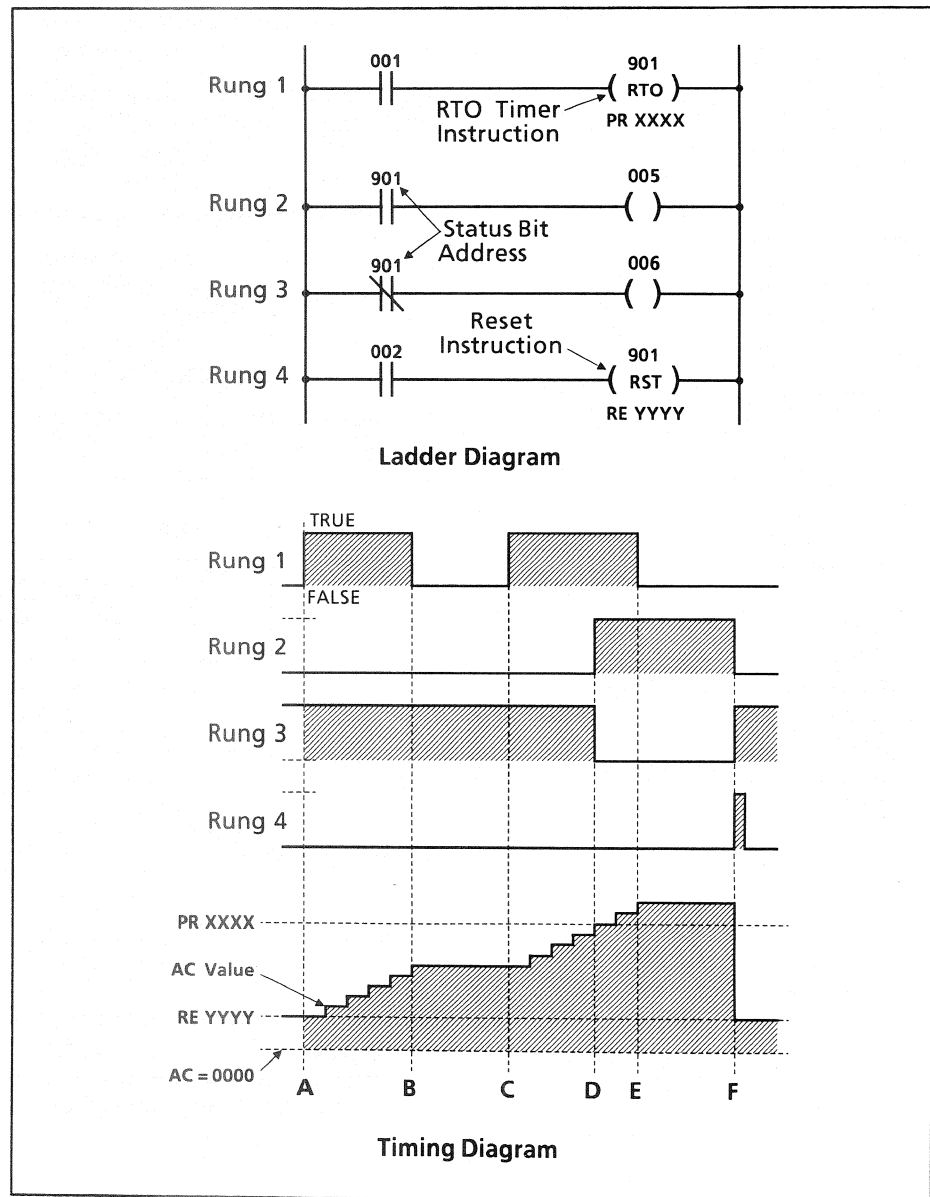

Figure 3.23 The RTO instruction.
3.5.1 On-Delay Timer (RTO) – As pointed out in Figure 3.22, the AC value of the RTO timer increments when the RTO rung is TRUE. This is illustrated in Figure 3.23, which shows an RTO timer ladder diagram and the corresponding timing diagram.